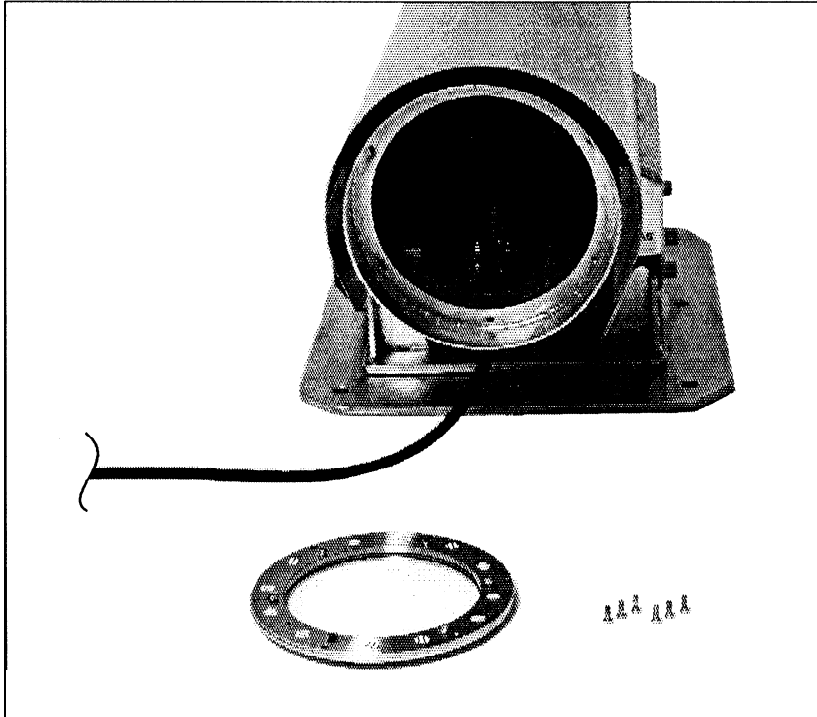

Figure 3.1 The window holder is mounted on the emitter and the receiver with the six outer, unmarked screws.
6. The light beam can now be adjusted vertically and horizontally using the fine adjustment screws on the lamp holder. (To gain access to these screws, the protective screws on the telescope must first be removed.) Turning screw [24] clockwise causes the light beam to move to the left. Turning screw [26] clockwise causes the beam to move upwards. The axial position of the lamp is adjusted for a distance of about 500 metres on delivery. This distance can be reduced by turning screw [25] in a clockwise direction. To gain access to screw [25] the window has to be removed, see figure 3.1.
- Locate the three screws holding the original window at the telescope front, see figure 3.1.